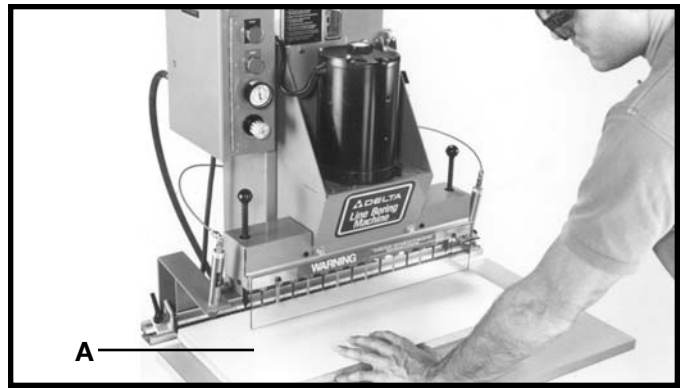

Fig. 66
1. Place the workpiece (A) on the table and against the fence as shown in Fig. 66.